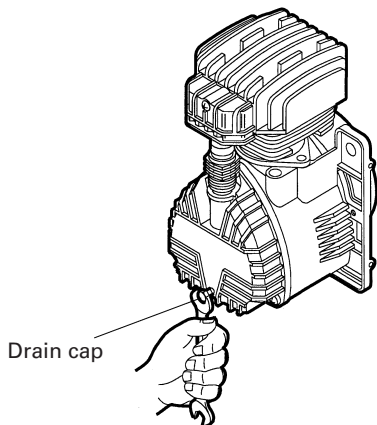

Fig. 10
- (1) Within the first 50 hours of operation, completely replace the oil of the pumping element. Unfasten the oil drain cap on the casing cover, drain all the oil, and screw the cap back on (Refer to Fig. 1 and Fig. 10).